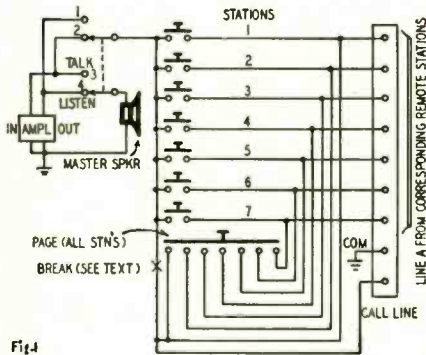

Fig. 1
A. Fig. 1 shows the switching circuits
ondary tapped at 8 ohms. In this case, break the connection at X in Fig. 1 and wire the transformer as in Fig. 3 so that the 8-ohm voice-coil tap connects to terminal 1 on the PAGE button. (The line "to term. 8 on page button" in diagram above is incorrect. Use an input transformer with 50-ohm secondary.